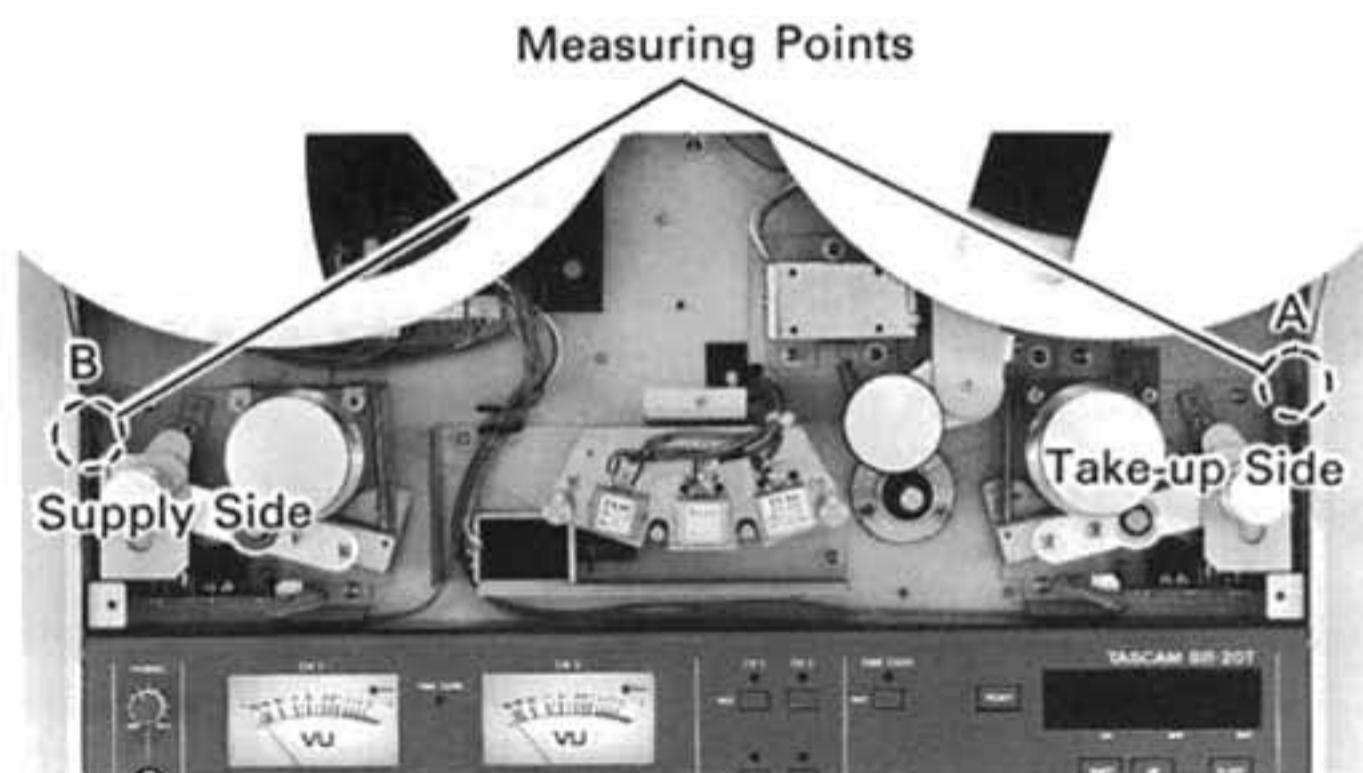
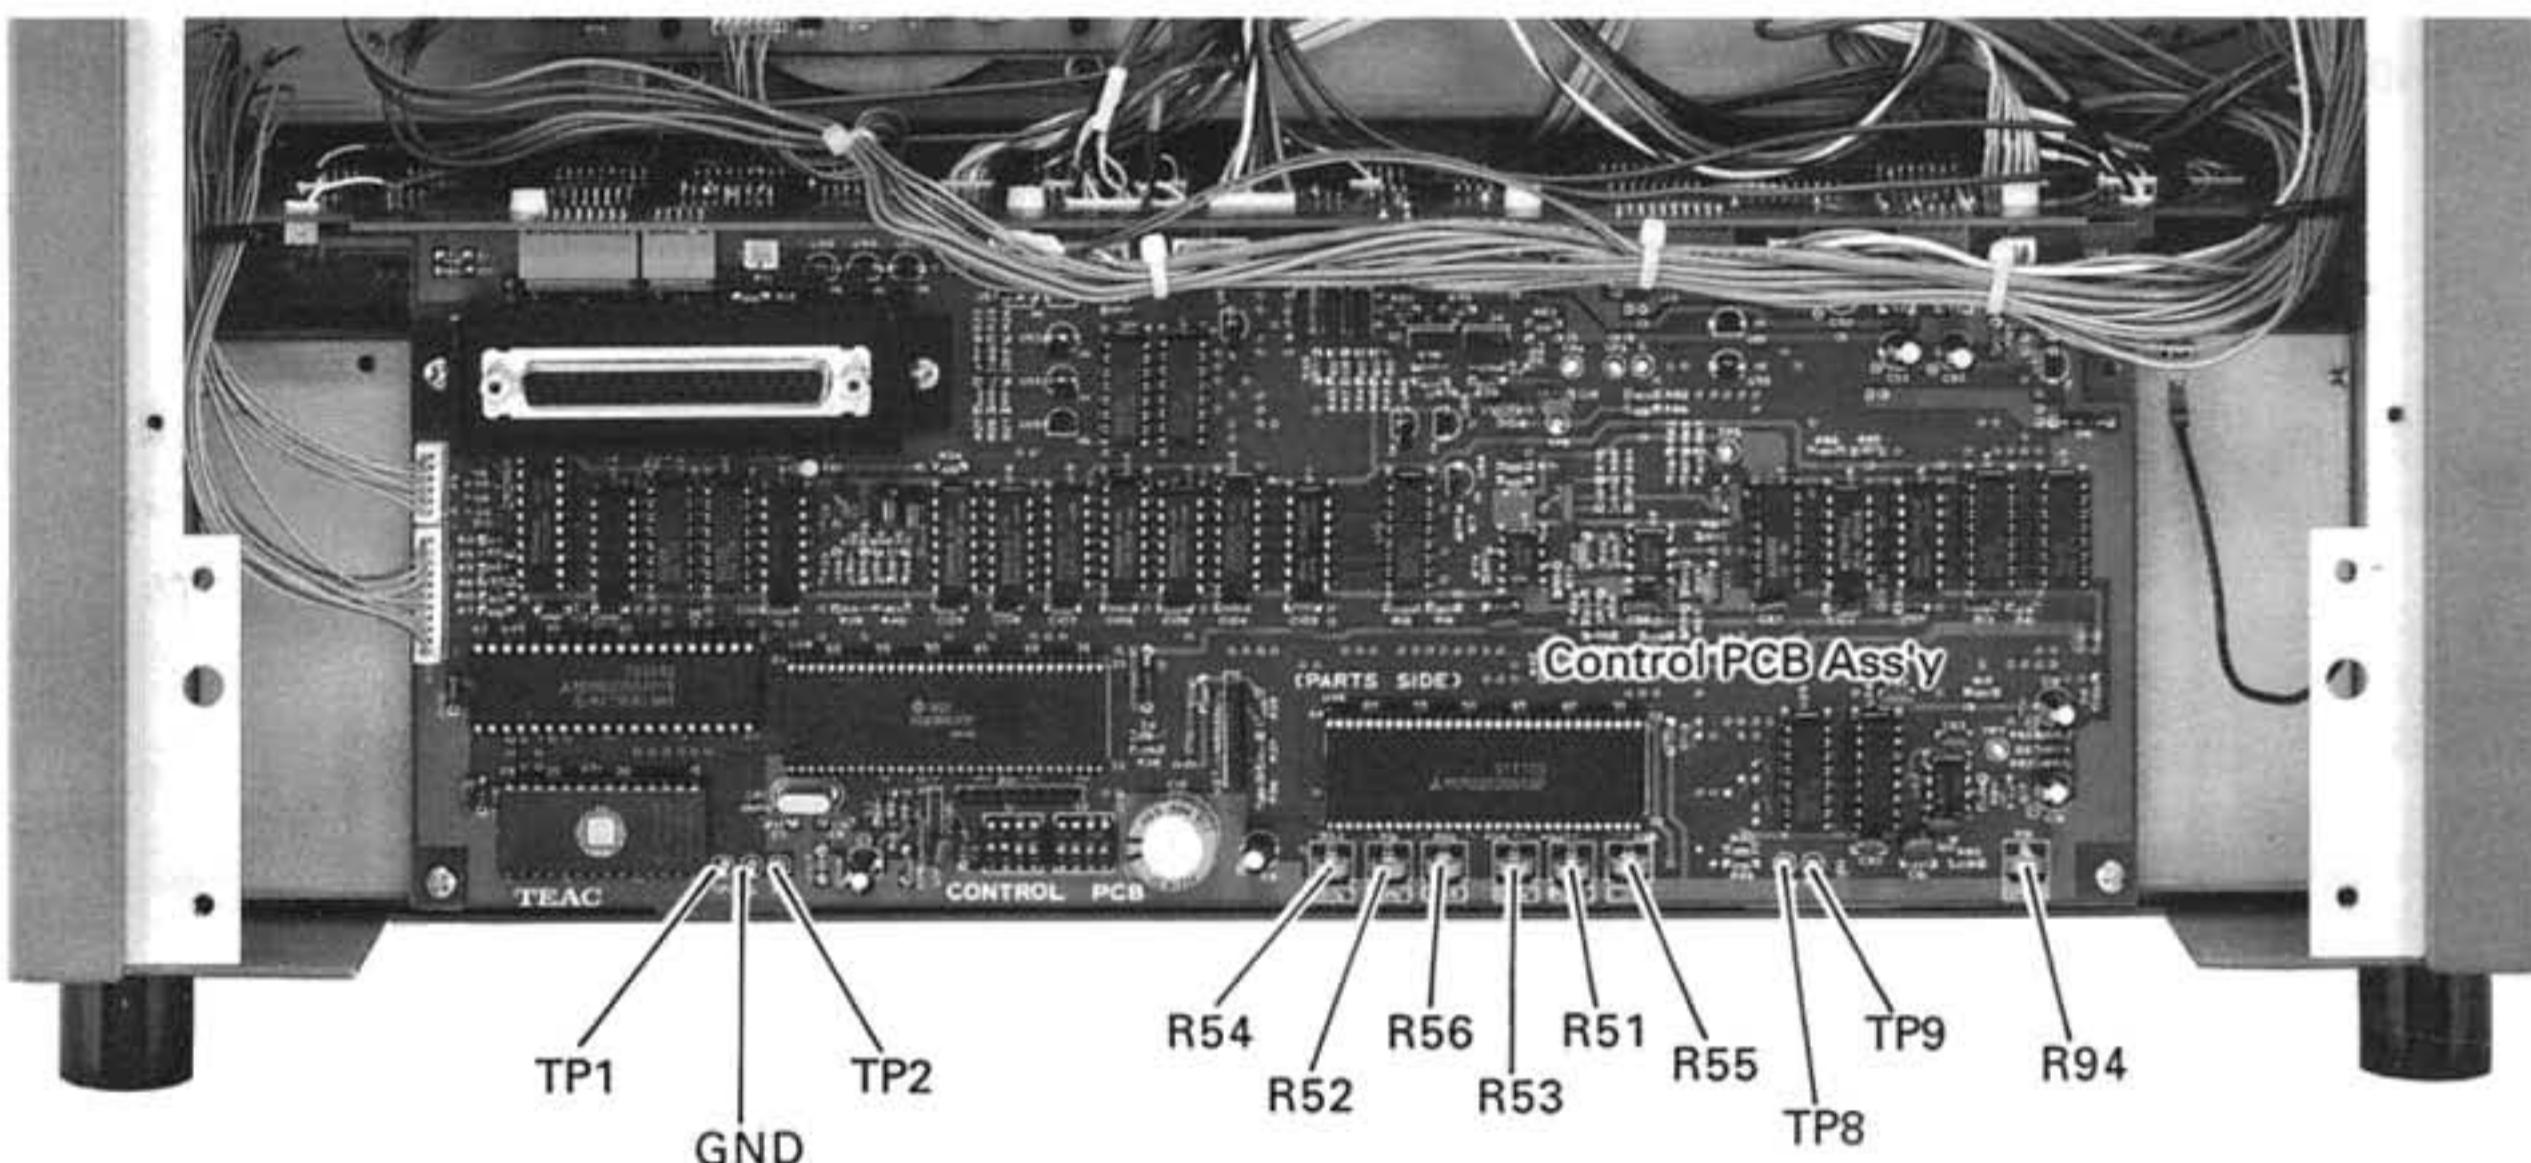

Figure 5-6. Tape Tension Measurement Points
Figure 5-7. Tape Tension Adjustment Resistors
2. Enter EDIT mode, and, using a tentelometer T2-H20-M2, measure tape tension both at the supply (test point A) and the takeup (test point B) side (for test point locations, see Figure 5-6). Readings should be as follows :
Locate the following resistors on the Control PCB (Figure 5-7) and adjust them.
Run tape in PLAY and measure tape tension at A (takeup) and B (supply) test points shown in Figure 5-6.
Locate the following resistors on the Control PCB (Figure 5-7) and adjust them until tape tension is within specifications.
Short-circuit between TP-8 and TP-9 on the Control PCB (Figure 5-7), enter EDIT mode, and read the tensiometer at test points A (F.FWD, B.T) and B (REW, T.T) shown in Figure 5-6.
Locate the following resistors on the Control PCB (Figure 5-7) and adjust them until tension is within specifications.
1. Connect an oscilloscope between TP-1 and GND on the Control PCB (Figure 5-7).
Adjust resistor R94 located on the Control PCB (Figure 5-7).